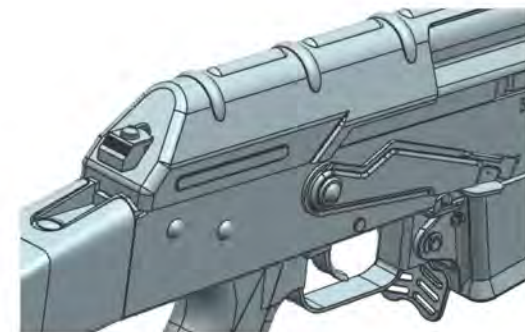

Fig. 26 Condition of receiver cover reassembled
4.2.3 When reassembling the receiver cover, push the counter-recoil mechanism slightly forward into the slot in the rear base, lock the front end of the receiver cover into the locating groove in the rear sight base, then, while pressing with your left hand the rear end of the receiver cover, pull with your right hand the automatic mechanism to get the counter-recoil mechanism base into the square hole in the receiver cover (See Fig. 26).